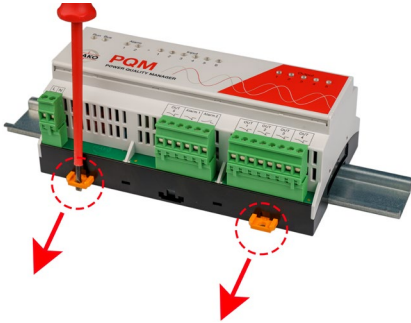

Figure 1 Mounting
- Use a screwdriver to withdraw all the orange retaining clips from the instrument base until they click into place (see *Figure 1: below*).